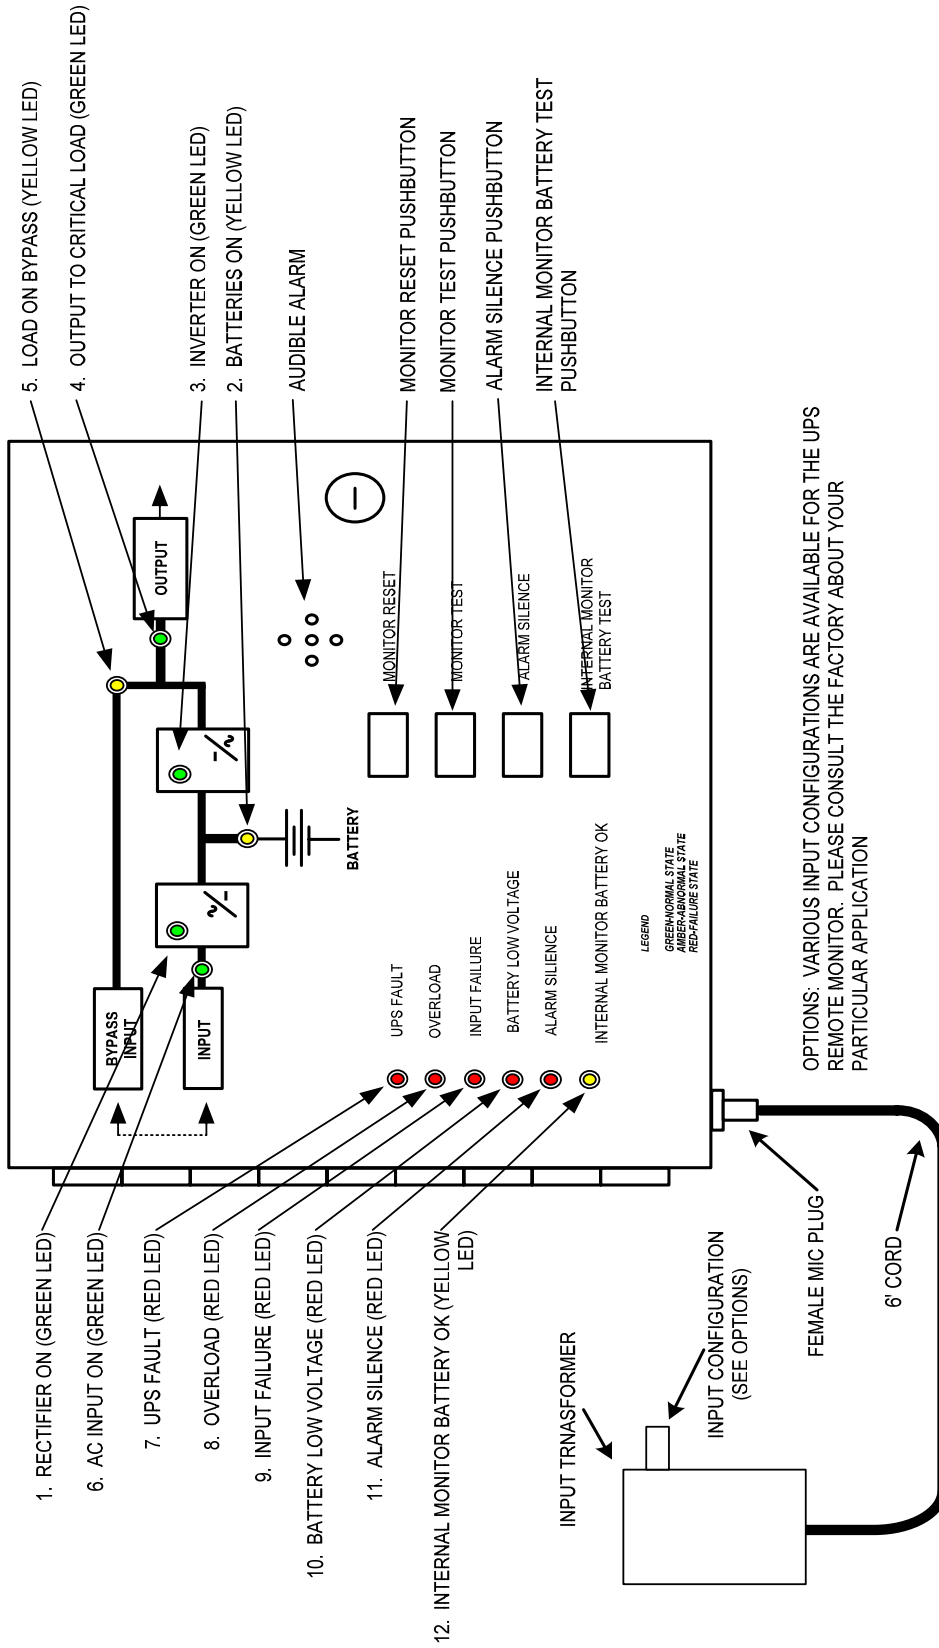
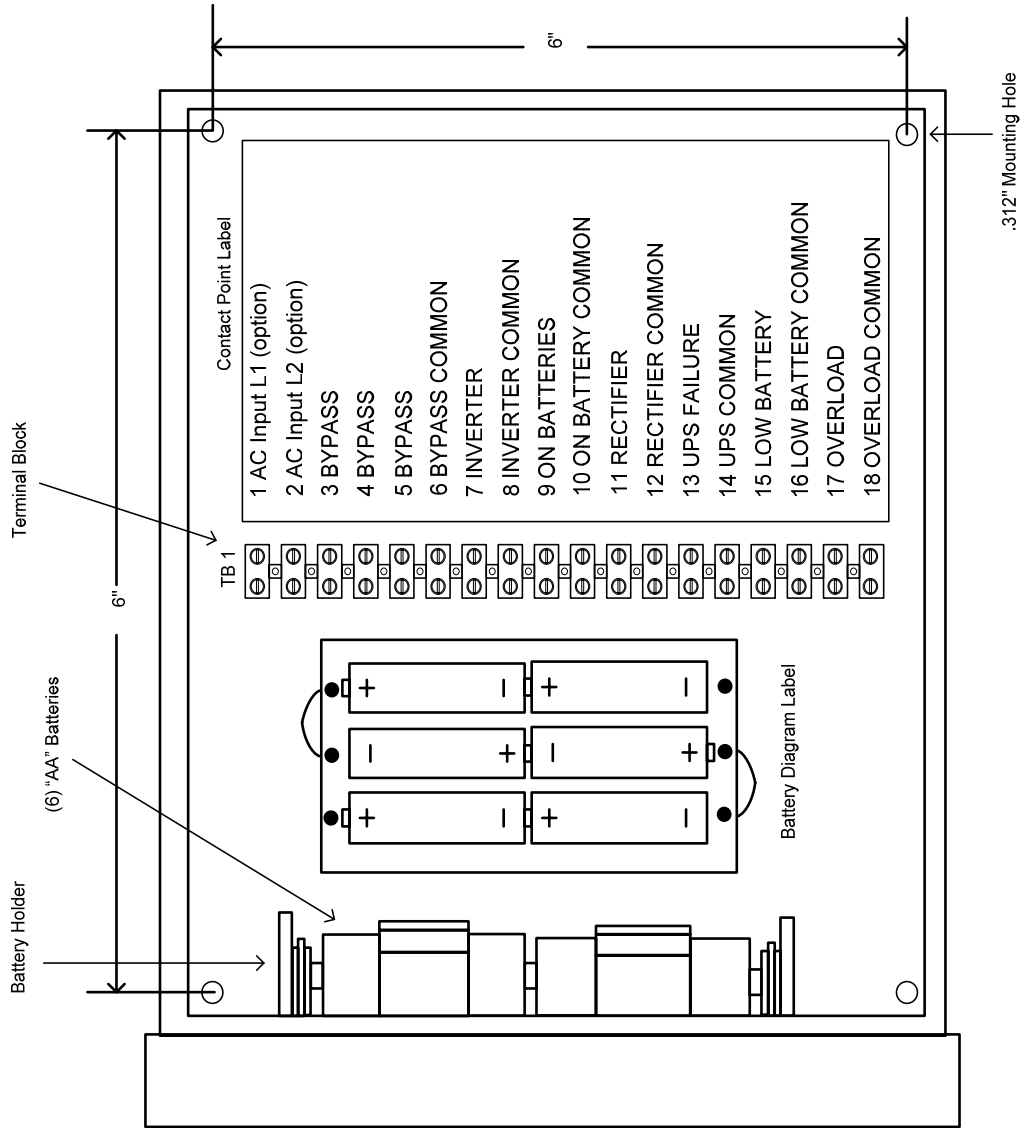

FIGURE 1.0
FIGURE 3.1
7. Referring to Figure 1.0, connect the power supply adapter into the corresponding jack located on the bottom left-hand side of the RSAP enclosure. Plug the power supply into a convenient 120V/60Hz wall receptacle. Failure to connect to a suitable wall outlet will drain the RSAP's internal batteries and/or result in damage to the monitor. (If supplied with the hardwire version, please refer to Figure 3.1 for AC input terminal block layout. Connect L1, Neutral, and Ground with minimum of 18AWG wire.)
Refer to Figure 1.0 for location of the LED's and pushbuttons described below: